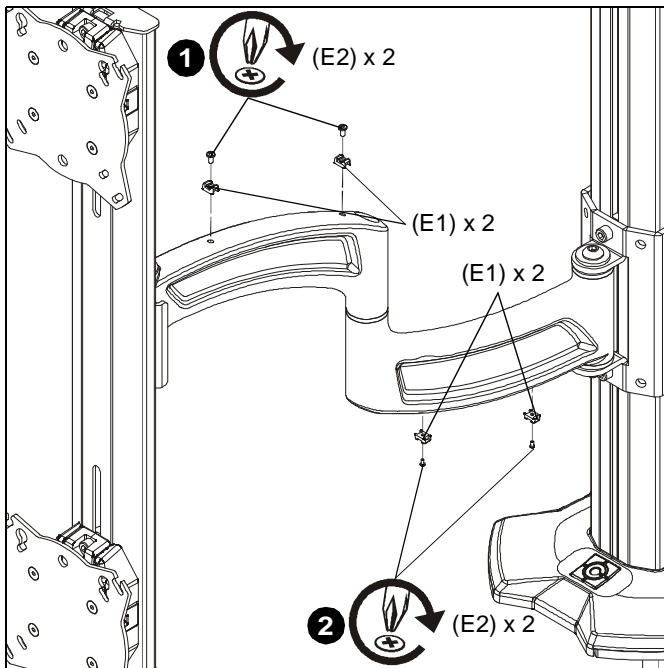

Figure 18
1. Use two #10-24 x 3/8" button head cap screws (E2) to attach two tie mounts (E1) to upper mounting arm. (See Figure 18)
2. Use two #10-24 x 3/8" button head cap screws (E2) to attach two tie mounts (E1) to lower mounting arm. (See Figure 18)